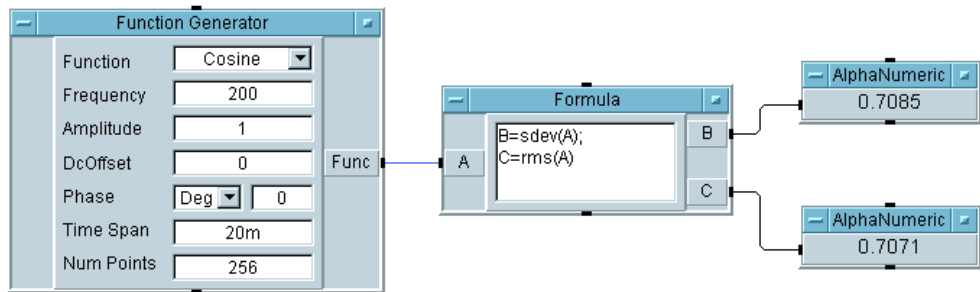

Figure 120 VEE Functions Using One Formula Object
- 9 Run the program. It should look like Figure 120.